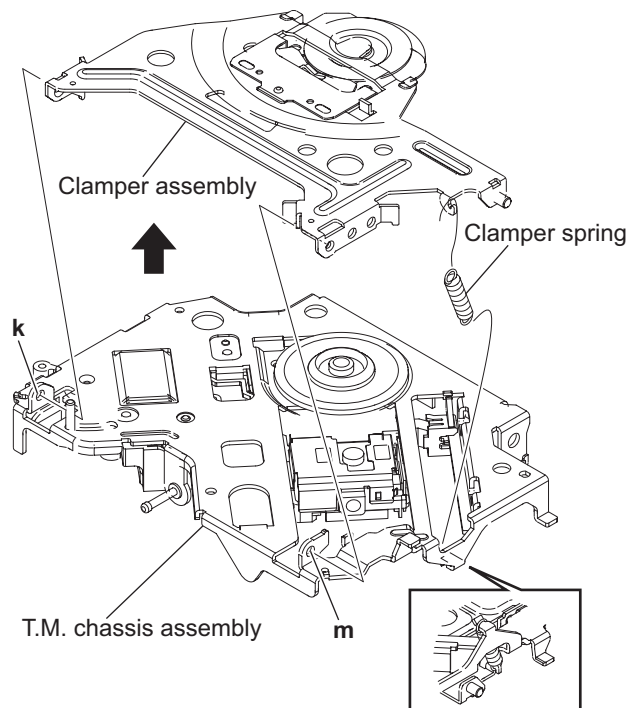

Fig.17
3.2.9 Removing the clamper assembly (See Fig.17)